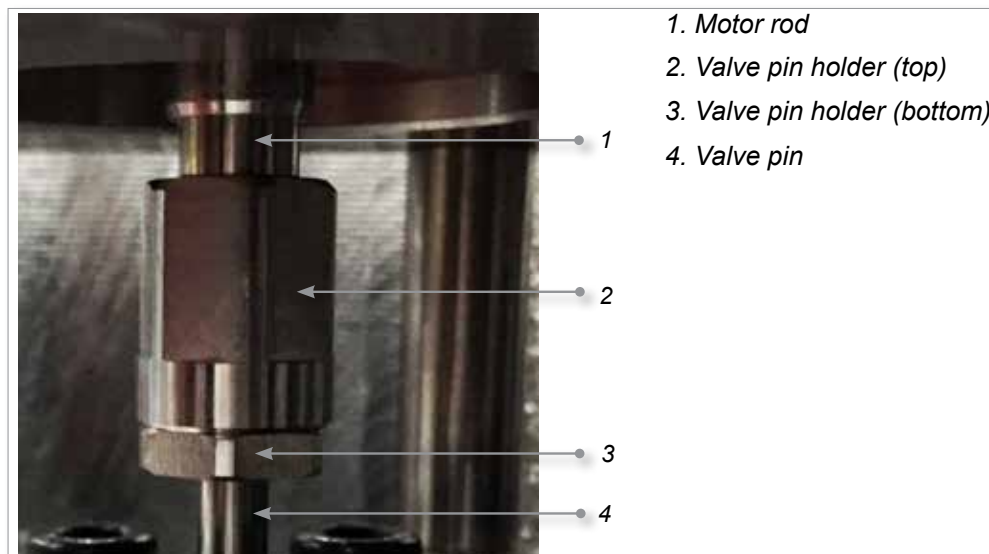

Figure 12-4 Valve pin holder components
2. Install the valve pin holder assembly onto the motor. Torque to 8 to 10 Nm [6 to 7 ft-lbs]. See Figure 12-4.